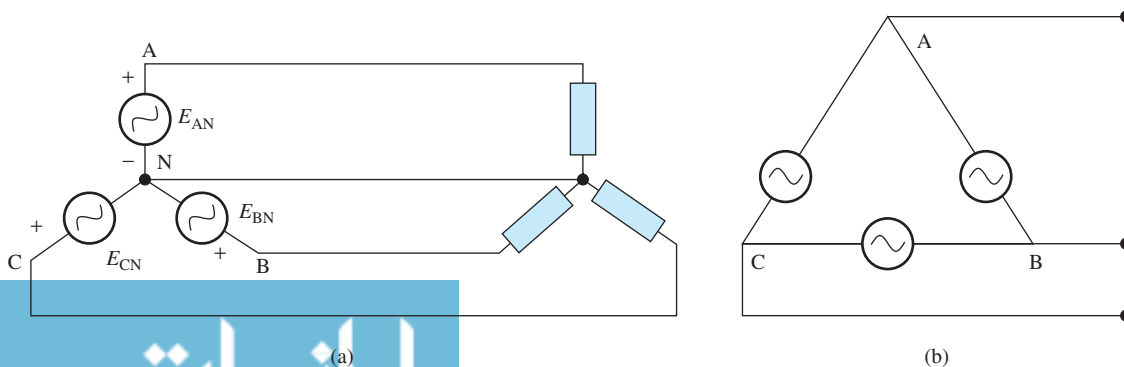

FIGURE 9.3 (a) Star-connected generator feeds a star (Y)-connected load. (b) Star-connected generator.
Figure 9.3(a) represents a simple three-phase circuit. Usually, generator coils are connected in star (Y) to avoid power loss and lower production costs. As explained in this section, generators are rarely Δ -connected [see Figure 9.3(b)]. Note that the Δ -shaped wiring creates a loop that allows the circulation of the current. In this formation, if the phase voltages of each Δ -connected side are not perfectly balanced, for example, due to the phase-winding imbalance across these voltages, there will be a net voltage, and consequently a circulating current around the Δ -shaped wiring. This results in a power loss. Moreover, the phase voltages are lower in a Y-connected generator, and thus, less insulation is required to maintain safe transmission of power through the transmission lines. This leads to lower cost of transmission lines and cables. The next subsection explains the notion of star and Δ connection of generators and loads.
At power generation stations, three sinusoidal voltages are generated having the same amplitude but displaced in phase by 120° . This is called a balanced voltage source, as shown in Figure 9.3. The point at which all coils are connected is called the neutral point, N.